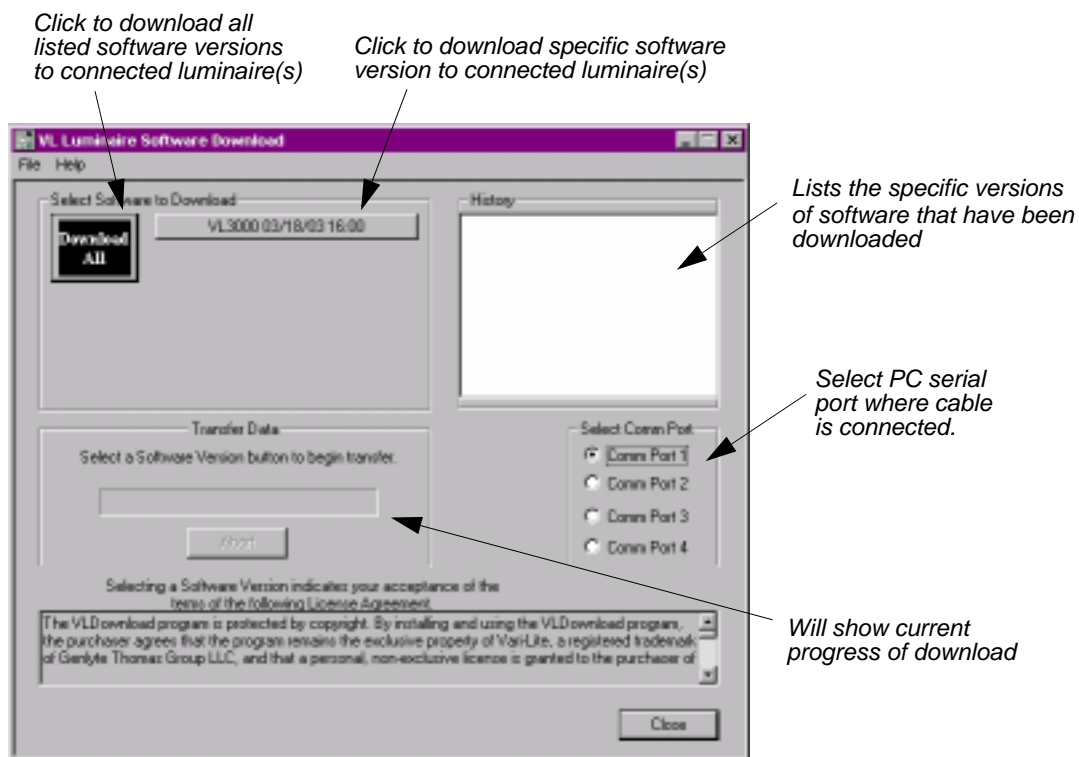

Figure 3-5: VL Download Program Window
- Step 6. At Select Comm Port section of window (refer to Figure 3-5 on next page), select serial Comm Port (Comm Port 1, Comm Port 2, Comm Port 3, or Comm Port 4) where *Serial Straight Thru Cable* is connected.